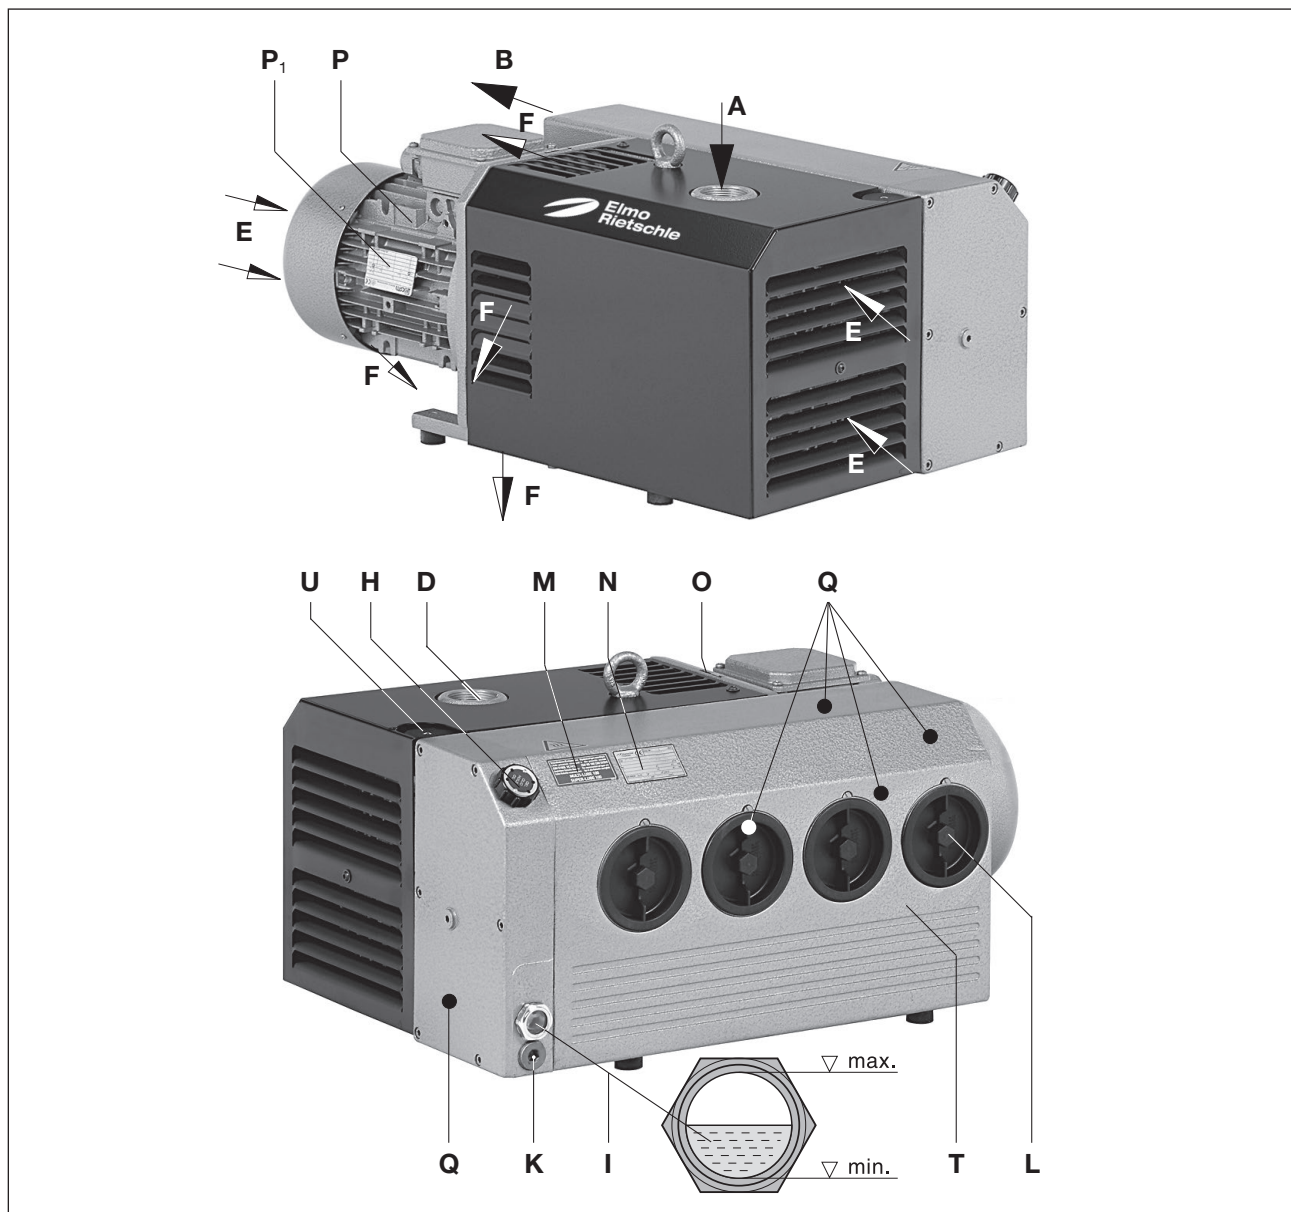

Fig. 2 Vacuum pump V-VC 40 - V-VC 150
A gas ballast valve fitted as standard (Fig. 2/U) prevents condensation of water vapour in the inside of the pump when low amounts of steam are sucked in when the pump is at operating temperature. A reinforced gas ballast (optional) can be used if there is a higher amount of water vapour.
The suction flange (Fig. 2/D), oil filling point (Fig. 2/H), oil sight glass (Fig. 2/I), oil outlet (Fig. 2/K), gas ballast (Fig. 2/U) and the oil removing device housing (Fig. 2/T) must be easily accessible. The cooling air inlets (Fig. 2/E) and the cooling air outlets (Fig. 2/F) must be at least 30 cm away from adjacent walls. Cooling air coming out must not be sucked in again. For maintenance work there must be a space of at least 40 cm around the machine.
Sealing or constricting of the exhaust air outlet (Fig. 2/B) may lead to severe or fatal injuries!
- a) The vacuum connection (Fig. 2/A) can be found on the suction flange (Fig. 2/D).
- b) The discharged air can be freely blown out through the exhaust air hole (Fig. 2/B) or conducted away using a hose or pipe.
- a) Fill the lubricating oil (for suitable types see the "Maintenance" section) via the oil filling point (Fig. 2/H) up to the upper edge of the sight glass (Fig. 2/I).
- a) The motor's electrical data is given on the data plate (Fig. 2/N) or on the motor data plate (Fig. 2/P₁). The motors comply with DIN EN 60034 and are in protection class IP 55 and insulation class F. The appropriate connection diagram is located in the motor's terminal box (not for the plug connection version). Compare the motor data with the data of the existing mains network (current type, voltage, network frequency, permitted current value).